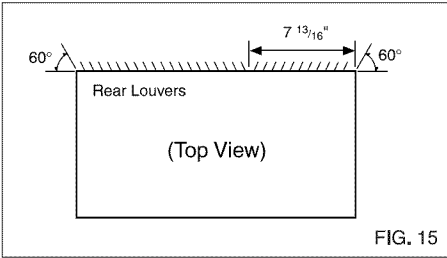

FIG. 15
- 1** Redirect the louvers at the back of the wall sleeve to 60° angle as shown in the FIG 15. The use of pliers is recommended.